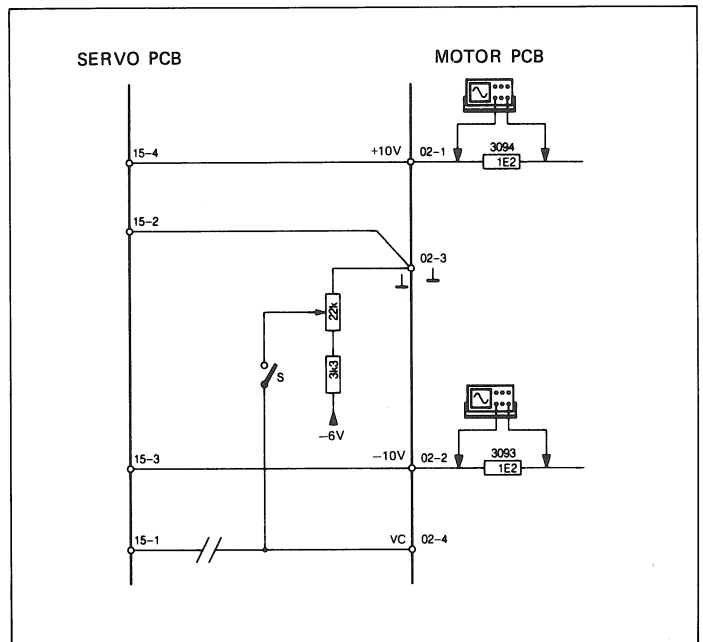
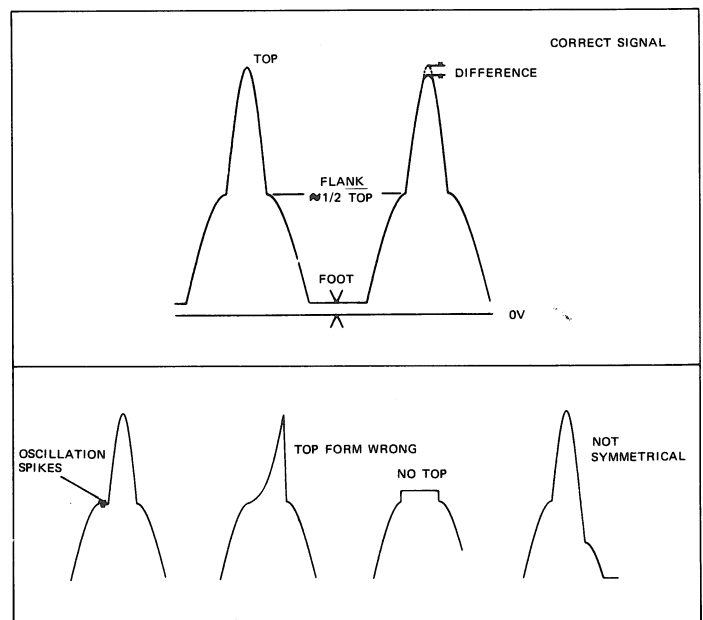

Fig. 4.18
Fig. 4.19
-> Fig. 4.18 / Fig. 4.19
- For a good functioning the signal has to meet the following values (Fig.4.19):
- Examples of the wave form faults see Fig. 4.19.